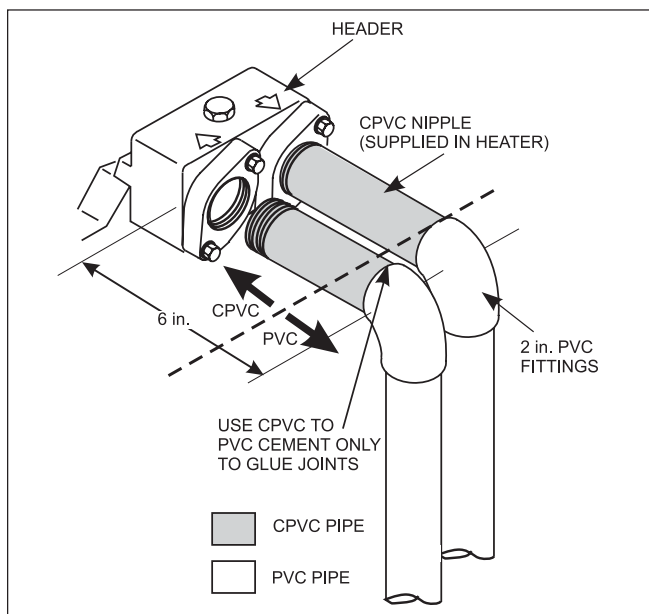

Figure 14. Plastic piping connections
To install plastic piping (see Figure 14):
1. Remove the 3/4 inch (19 mm) brass plug located on the top of the inlet/outlet header (see Figure 14).